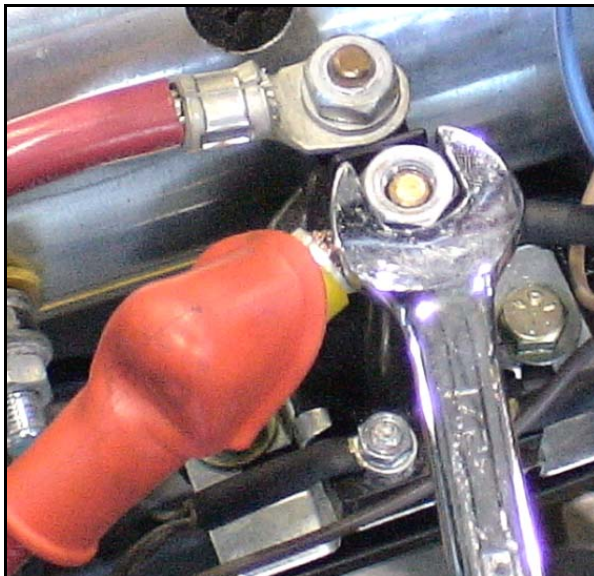

Figure 6
a. If it is **power switching** connect ring terminal attached to red wire to the power side of the solenoid post (See Figure 6.).